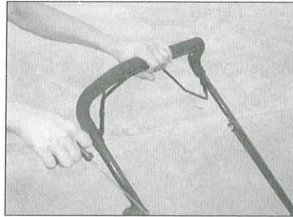

Fig.6B
3. Standing behind the unit, grasp the brake control handle and hold it against the upper handle as shown in Fig.6B.
4. Grasp the starter handle as shown Fig.6B and pull up rapidly. Return it slowly to the rope guide bolt after engine starts.